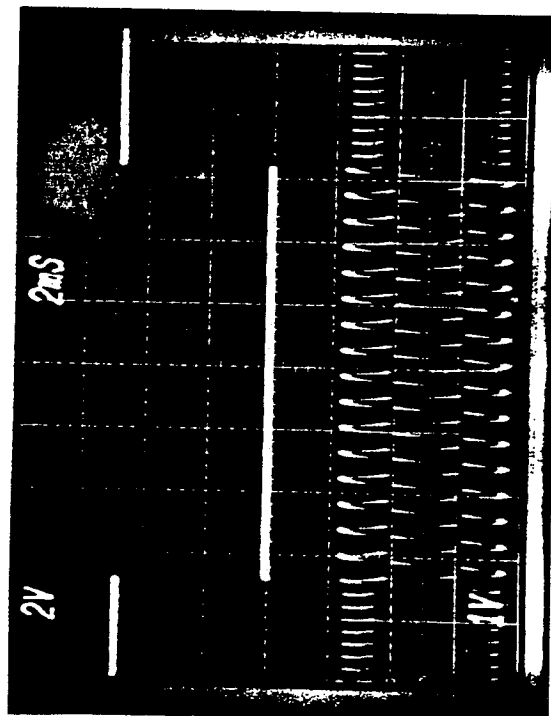

Figure 5-14
1. Check "SO" and "SDO"; the relationship between these signals should be approximately as shown in Figure 5-14.